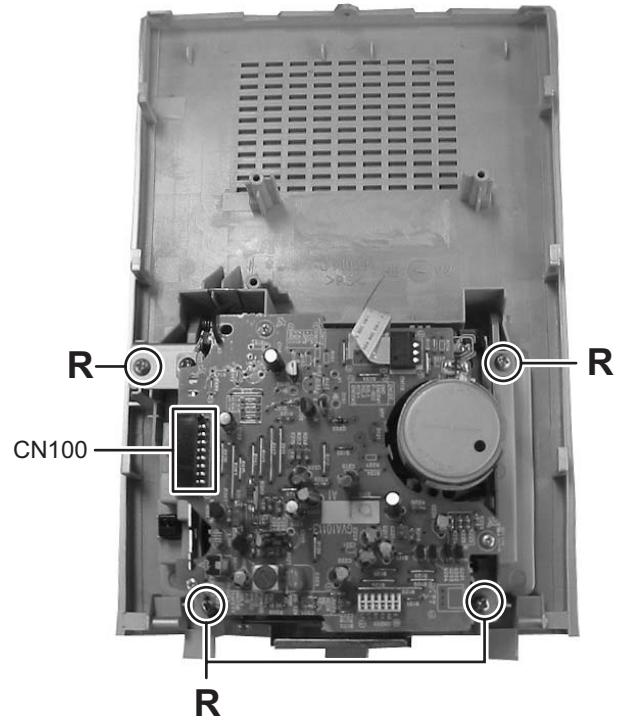

Fig.5
(See Fig.5)
(See Fig.5 and 6)
- (1) Remove the two screws **D** attaching the CD servo board from bottom side of traverse mechanism assembly. (See Fig.5)
- (2) Remove the solder from solder part **e** of the CD servo board. (See Fig.5)
- (3) Remove the yellow wire from solder part **f** of the CD servo board. (See Fig.5)
- (4) Remove the white wire from solder part **h** of the CD servo board. (See Fig.5)
- (5) Remove the CD servo board to upper side, disengage the hook **c** to direction of the arrow 1 then turn over the CD servo board. (See Fig.5)